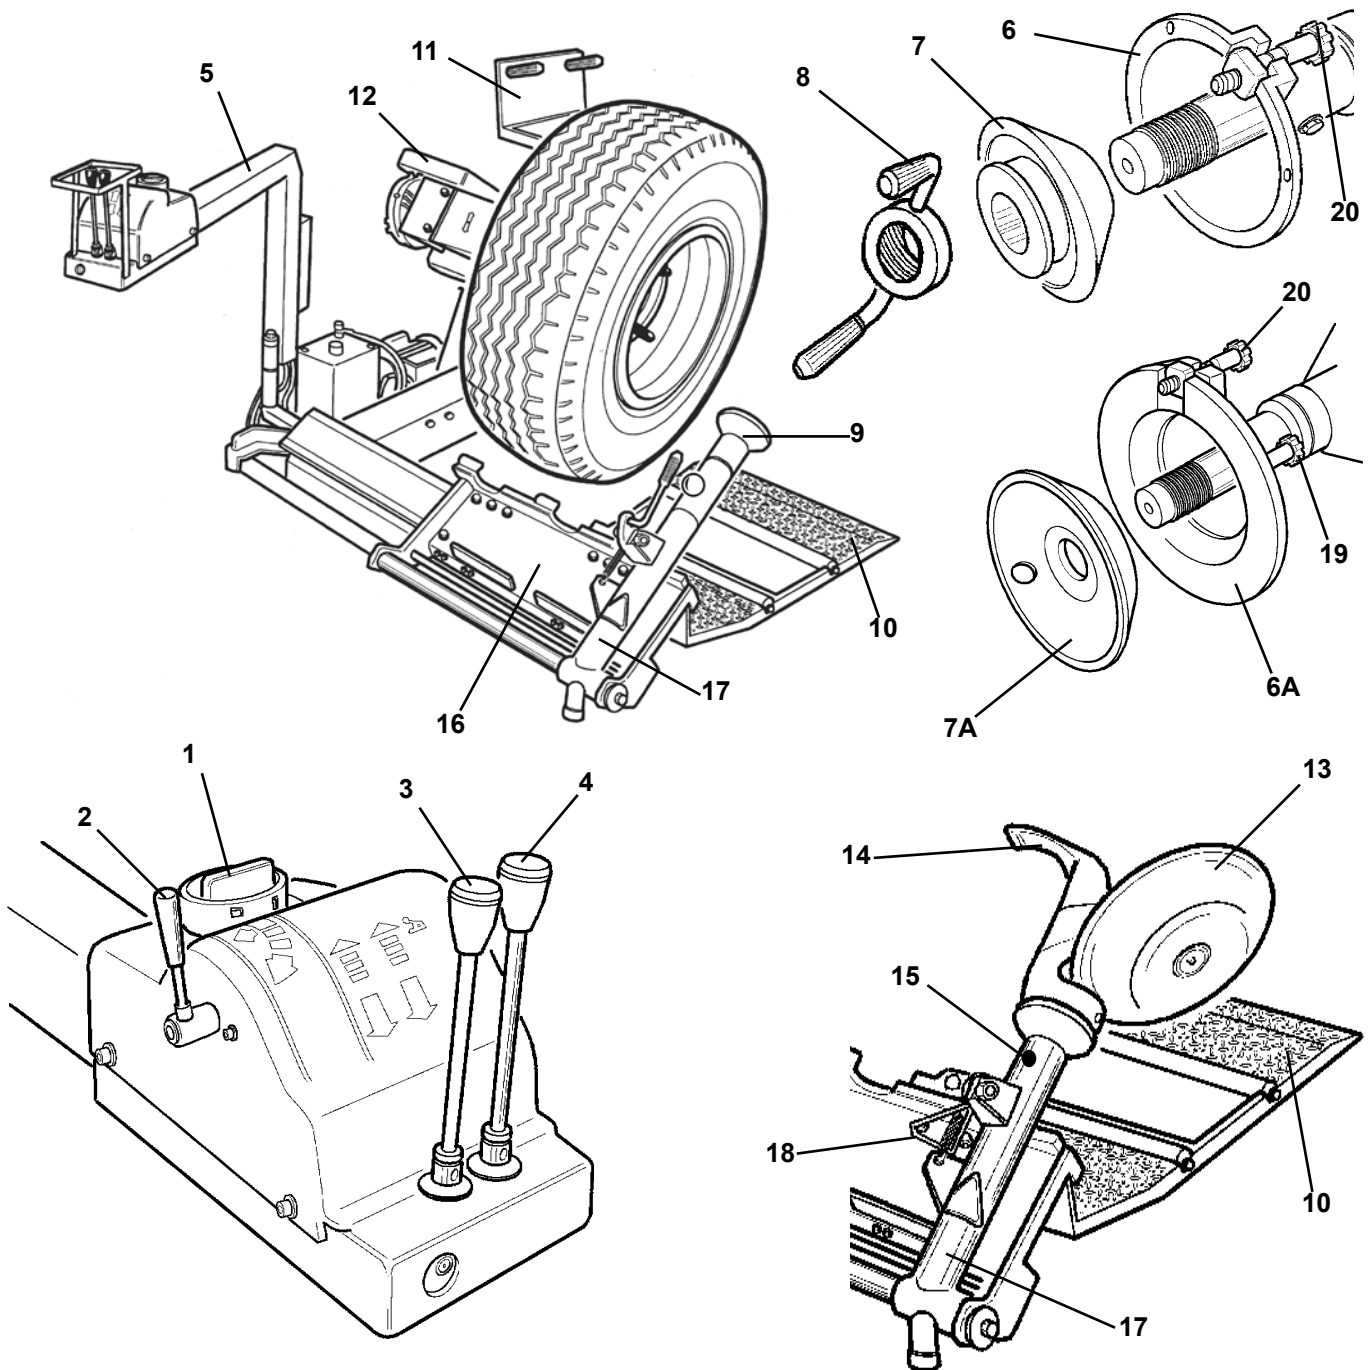

Fig.11
Press handle 18 to unlock the arm. Pull it and tip it in its non working position. Refer to fig. 11 for carrying out the running test.
Tip the tool-arm (17, fig. 11) in its non working position. By means of the lever (3) move the ramp (10) away from the spindle and place the tire assembly in vertical position over the sliding ramp.
(double tool must be locked by handle 15, fig. 11, with disk facing the spindle)